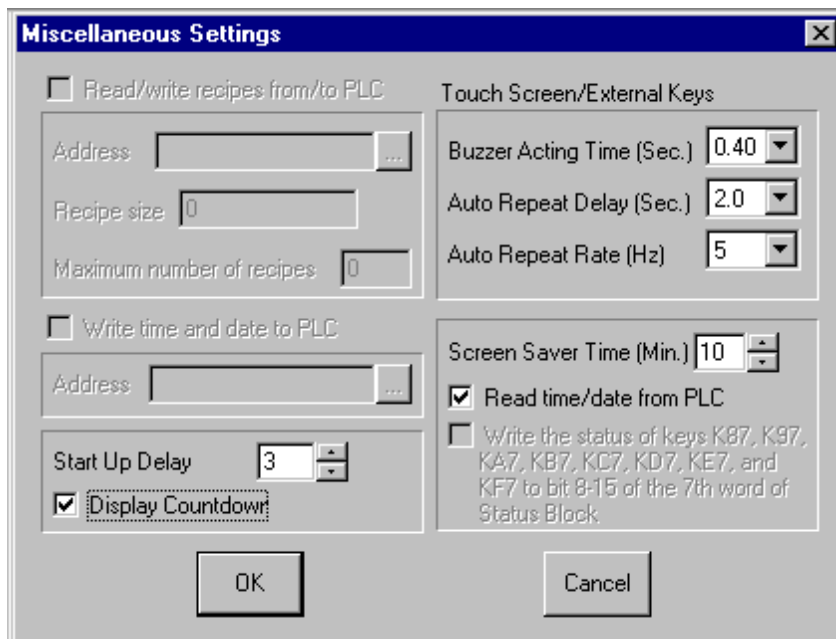

Figure 4-3 Miscellaneous Settings dialog box
4. A master Workstation should not start running until all slave Workstations displays their first screen. You can delay the start-up of a Workstation by setting the Start Up Delay in the Miscellaneous Settings dialog box as shown in Figure 4-3. To get Miscellaneous Settings dialog box, click Miscellaneous button in the Workstation Setup dialog box.